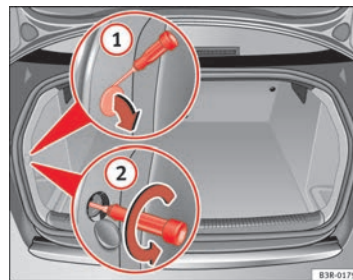
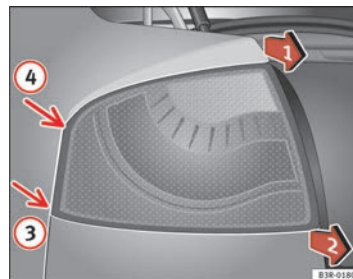

Fig. 213 Luggage compartment: Location of the bolt securing the rear light
Fig. 214 Removing rear light from side panel
- Prise open the cover at the slot with the screwdriver ⇒ page 270, fig. 213 ①.
- Use the screwdriver to loosen the screw ② (arrow) located behind the cover.
- Gradually ease the rear light out of the housing (⇒ page 270, fig. 214 positions ③ and ④) by pulling alternately in positions ① and ②.